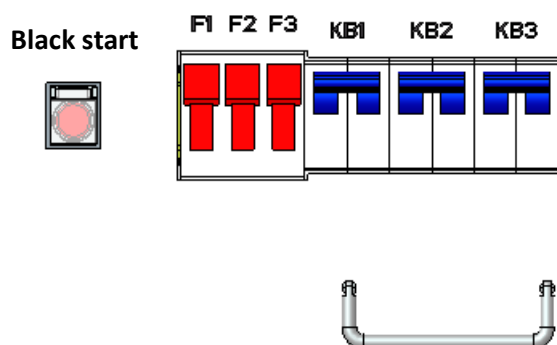

Figure 7-2 Black Start and internal MCB
(4) Open the cabinet door, close KB1, KB2 and KB3, press and hold the "Black Start" red button for 3 seconds as shown in Figure 7-2, wait for about 30 seconds, the battery voltage data will be displayed on the monitoring interface (if the monitoring is running) After the battery voltage data has been displayed, there is no need to press the "Black Start" red button). (If there is power on the AC side, that is, the diesel generator is running or the mains is input, the battery voltage data can be displayed on the monitor without pressing the "Black Start" red button).
- (5) Take MPS-500KW as an example, check whether there is a red alarm signal in the upper right corner of the monitor, and it can be turned on if there is no red alarm signal.